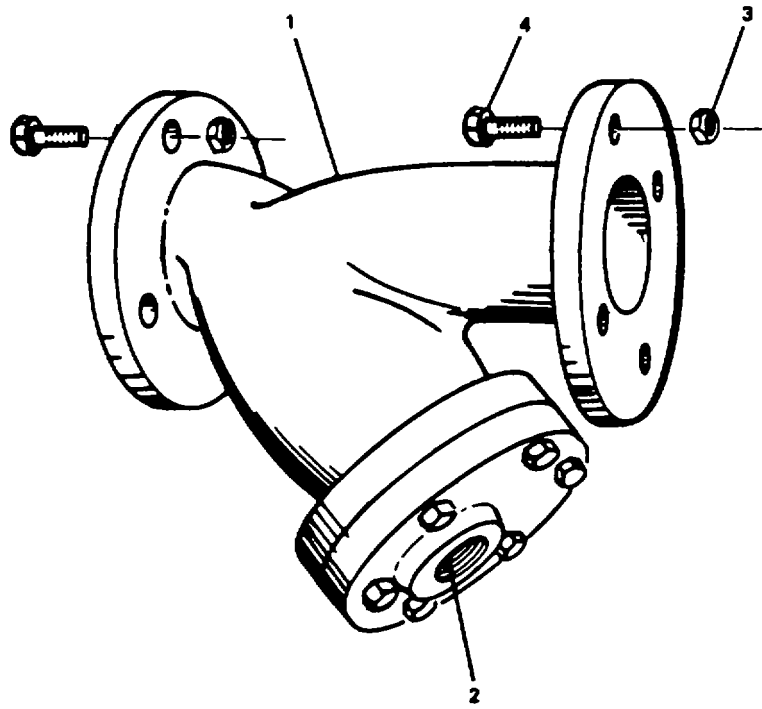

Figure 2-101. Replace Y-Strainer.
- a. Place a utility pail under Y-strainer (1, Figure 2-101) and remove drain plug (2).
- c. Remove nuts (3) and bolts (4).